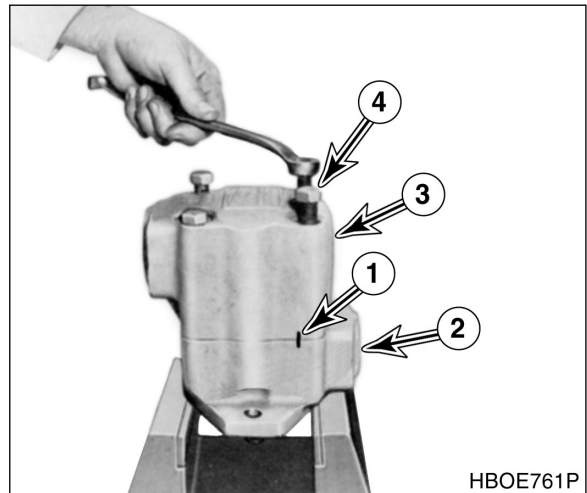
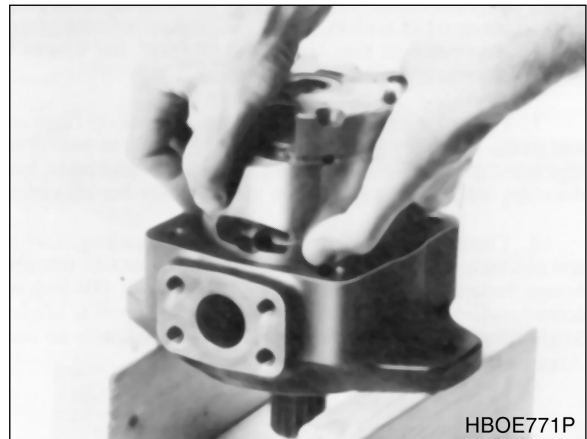

Figure 10
Figure 11
- A. Support pump on blocks or clamp body in a vise as shown in Figure 10. If a vise is used, use protective jaws to avoid damage to body and its machined surfaces. Match mark (1, Figure 10) pump body (2) and cover (3) for correct reassembly. Remove four cover screws (4) and lift cover off pump.
- B. Remove cover O-ring. Pull and/or pry out cartridge as shown in Figure 11.
2. Basic pump reassembly - Clamp body in a vise or place on 2x4 wooden blocks to facilitate assembly. (See Figure 10 and Figure 11.)